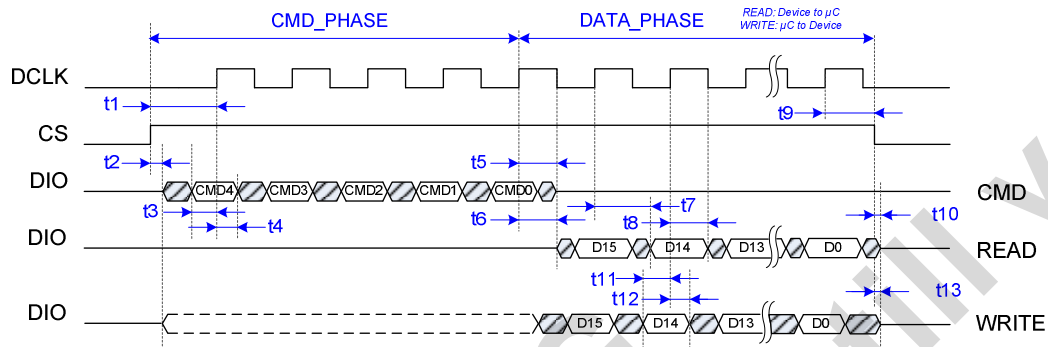
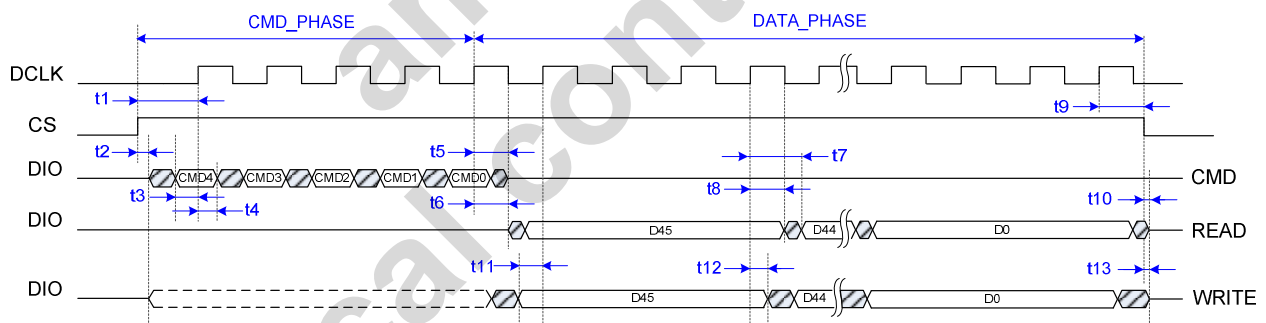

Figure 2: Normal Operating Mode
Figure 3: Extended Operating Mode
By default the peripheral pins CS, CLK, PDIO are used for the SSI interface. The device starts in *Normal Operating Mode* – one command-/data-bit needs one clock cycle – as shown in Figure 2.
Access to the OTP block is granted by sending a special command (EN\_PROG) over the SSI Interface to the OTP block. This command sets the device in *Extended Operating Mode*, where the device is able to handle signals for special requirements. In this mode, the digital interface needs four clock cycles for one data-bit (see Figure 3).
The following table contains all timings related to Figure 2 and Figure 3.
- Four clock cycles represent the readback (analog voltage) of one fuse (pattern looks like Figure 3), starting with the MSB.